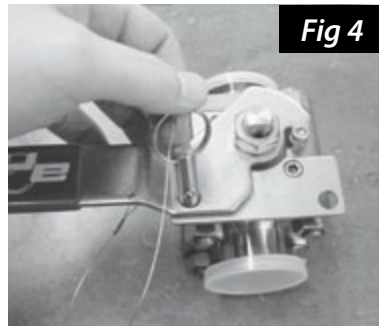

Fig 4
1. If your valve is equipped with a locking kit, remove any lock or pin that may be in place (Fig 4).